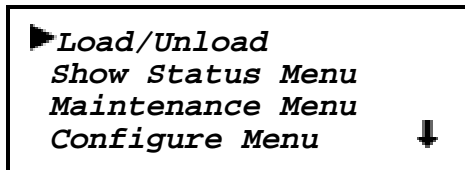

Figure 2-24 Main Menu
- At the Default Screen, press the **Enter** button. The display will show the Main Menu, as in Figure 2-24.